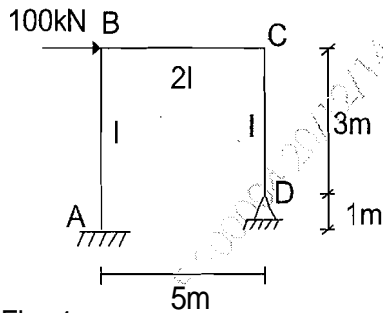

Fig. 1
b) Analyse the frame shown in fig. 1 by strain energy method. Draw SFD, BMD. 15